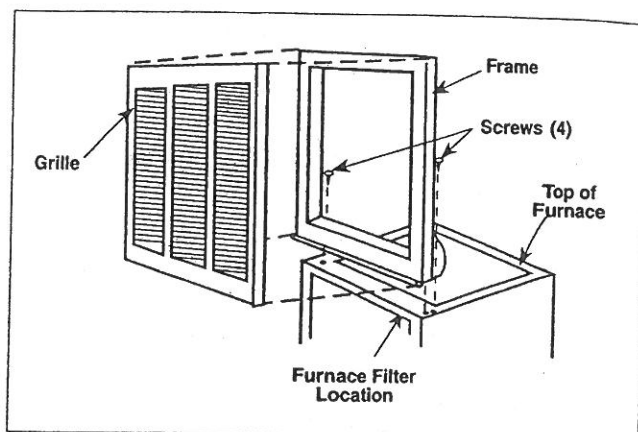

Figure 10.
For non-ducted systems, the optional grille and frame assembly is recommended. See Figures 10, 11 and 12. For ducted systems with air conditioners or heat pumps, provide an access panel in the duct or use the optional coil cabinet.
2. Install the grille support frame on top of the furnace and attach it with four sheet metal screws (provided) into pre-punched holes. See Figure 10.
- A. For installations **without** an air conditioning or heat pump coil, use the filter supplied with the furnace. Be sure the filter is installed "matt side down" between the support assembly and the furnace top. See Figure 10.